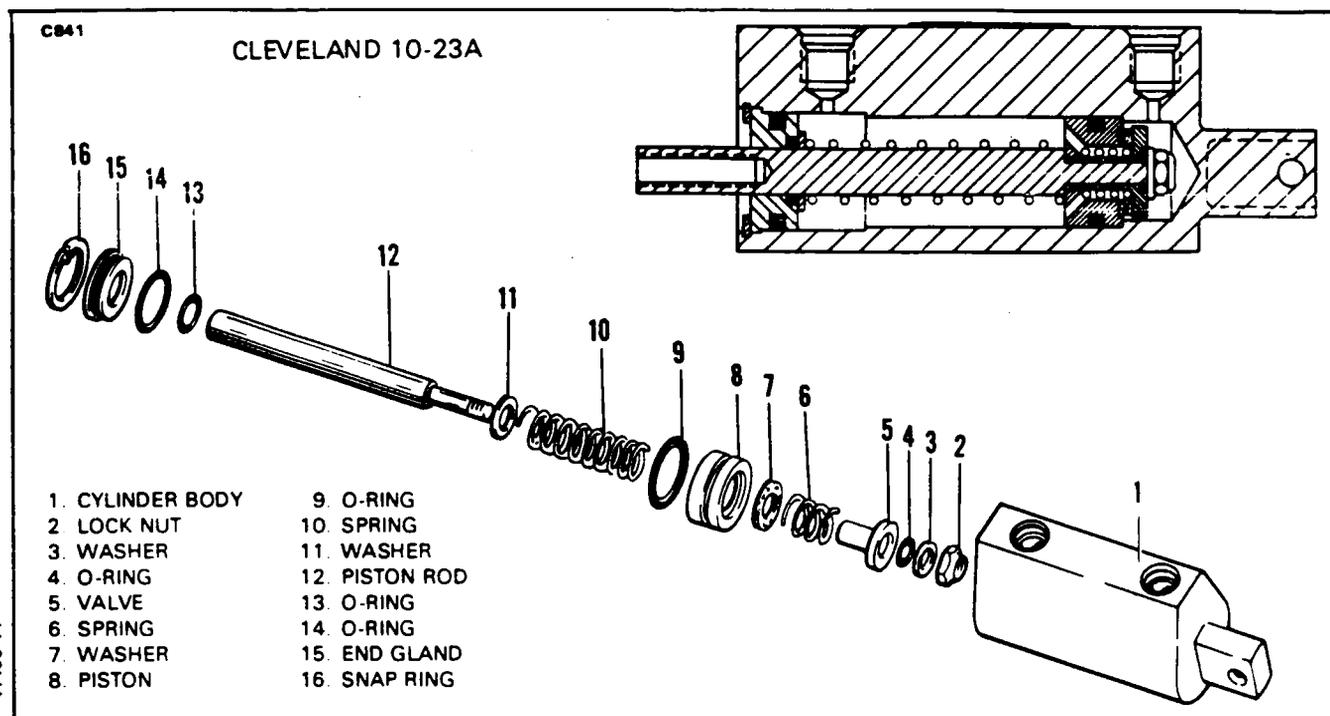

Figure 32-20. Brake Master Cylinder Assembly
**DISASSEMBLY OF BRAKE MASTER CYLINDER.** (Refer to Figure 32-20.)
**ASSEMBLY OF BRAKE MASTER CYLINDER. (Refer to Figure 32-20.)**